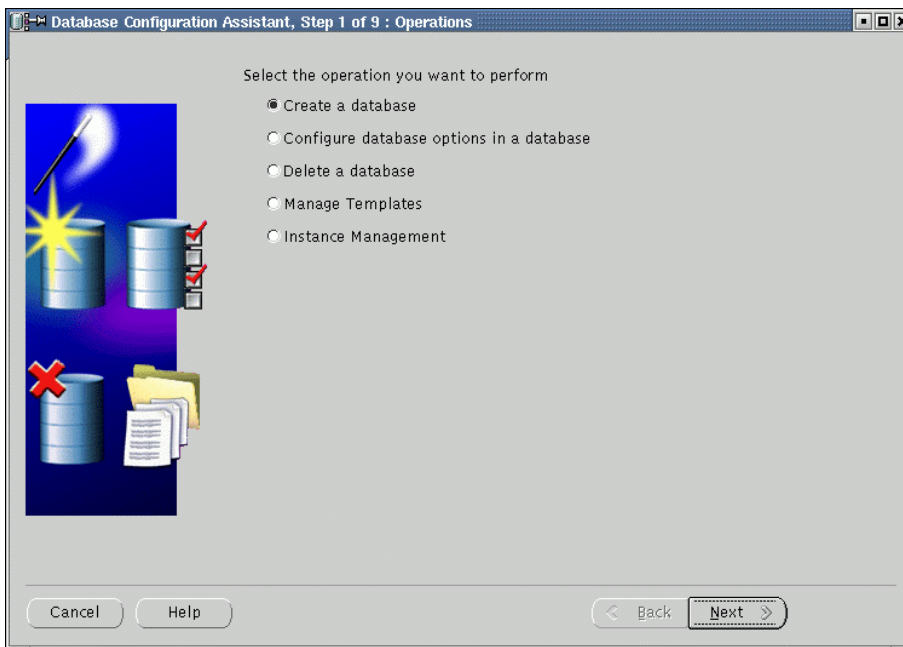

Figure 77. dbca operations
- A screen entitled Operations is displayed (Figure 77). Select **Create a database** and click **Next** to continue.